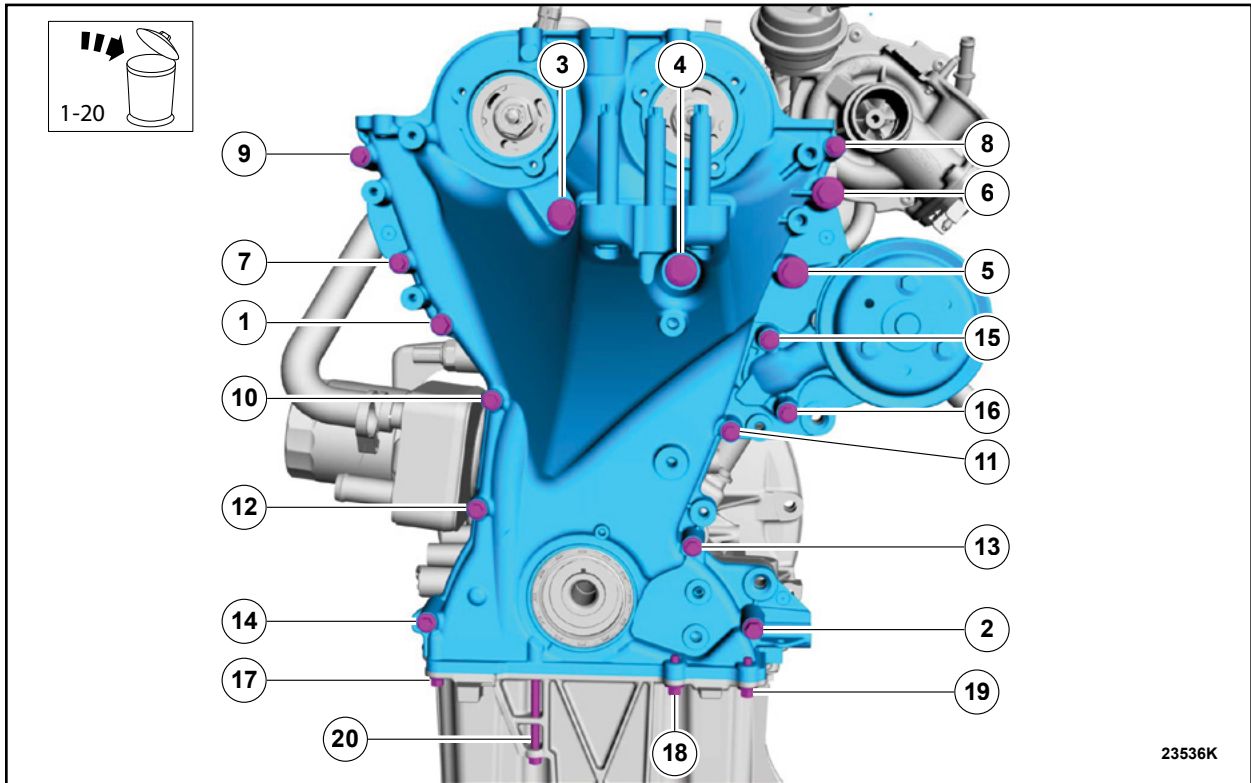

FIGURE 13
19. Remove and discard all 20 fasteners. Then, remove the engine front cover. See Figure 13.